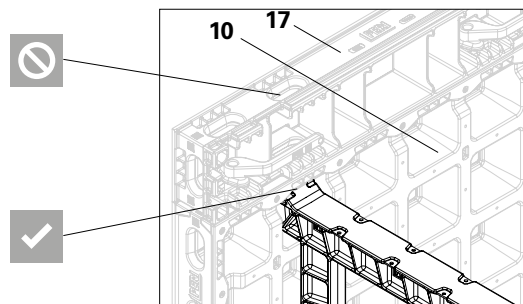

Fig. B4.13a
Do **not** mount the DUO 70 scaffold bracket (70) and the DUO front post holder (73) on the DFP filler panel (17). (Fig. B4.13a)